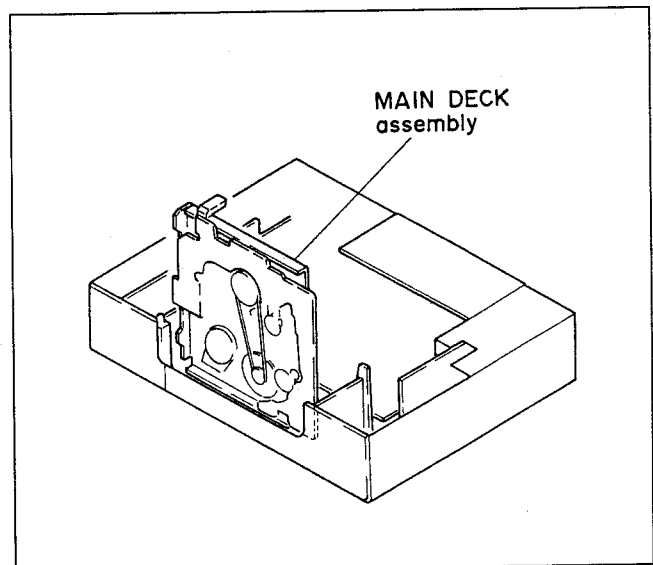

Fig. 1-8B Main deck assembly-2
- For check the bottom side of main deck assembly, take out screws (H), (J) and (K), and set up the front side of chassis as shown in Fig. 1-8B.
5. For checks and repairs, set up the main deck assembly to front of chassis as shown in Fig 1-8B